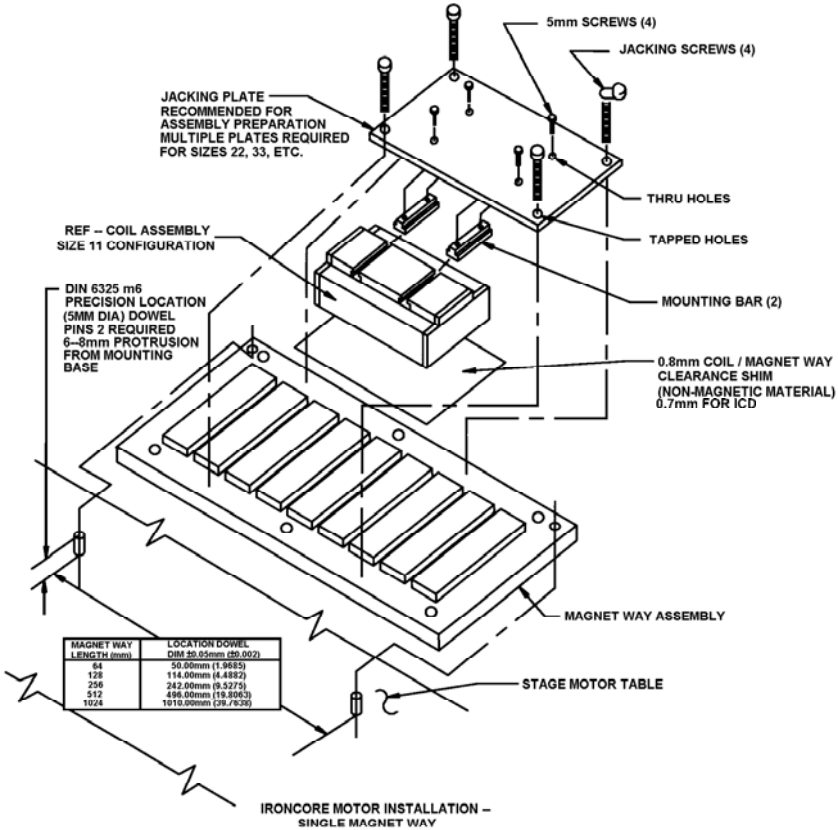

Figure 2 Single Magnet Diagram
2. To install the magnet way properly, it is recommended that the stage base include precision 5mm dowel pins. (See **Figure 1 Multiple Magnet Diagram** & **Figure 2 Single Magnet Diagram**).
3. If multiple magnet ways are designed into the stage, locating dowel pins should be installed to position and align each magnet way assembly. (See **Figure 1 Multiple Magnet Diagram** & **Figure 2 Single Magnet Diagram**).
3. Attach the jacking plate(s) to the coil assembly using M5 screws (shown in the **Figure 1 Multiple Magnet Diagram** Extend jacking screws (4 per plate) completely through the jacking plate(s) (see the **Figure 2 Single Magnet Diagram**).